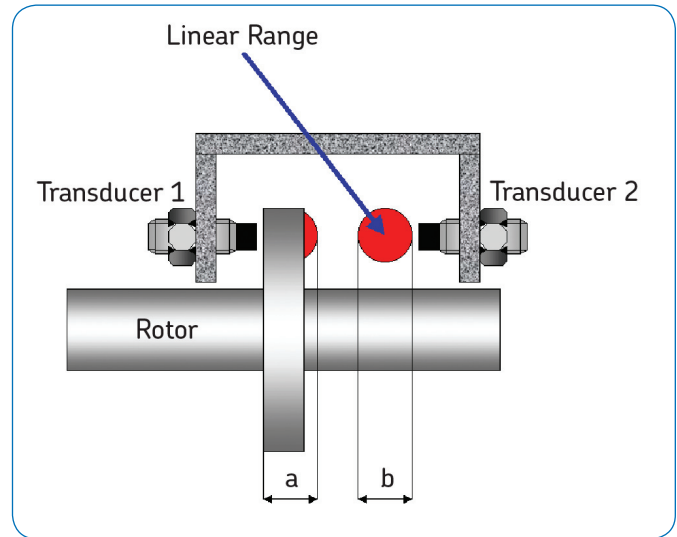

Figure 3.
In **fig. 3**, the situation is shown where the first transducer measures the gap and the second one is in saturation. As the rotor grows with respect to the case, the gap between the first transducer and the collar increases as the gap between the second transducer and the collar decreases. The increase in the first transducer's gap continues until its linear range is exceeded. At the same time the collar exceeds the linear range of the first transducer, it enters the linear range of the second transducer.
- 2 The probes are operating alternately, with only one probe in its measuring range at a given time. This doubles the measuring range that is possible with a single probe (→fig. 3).